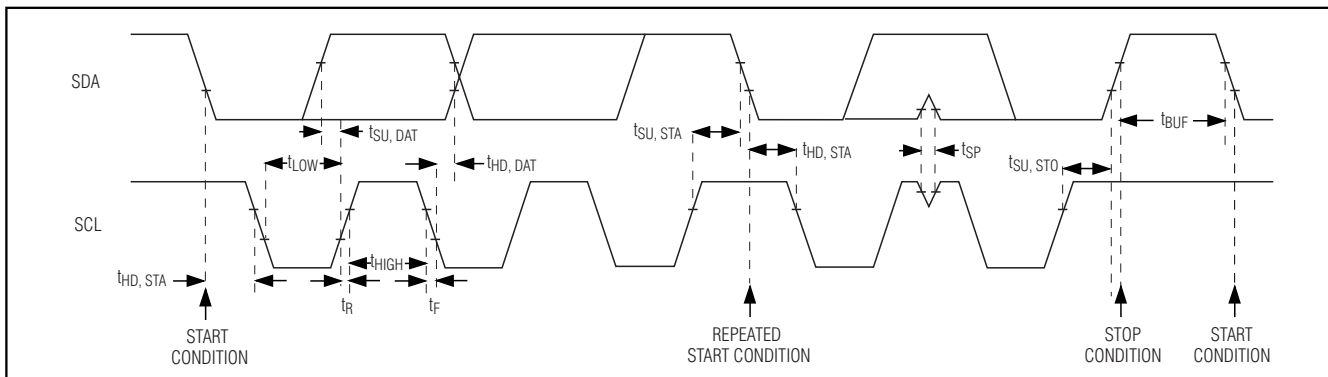

Figure 10. 2-Wire Interface Timing Diagram
facilitate communication between the MAX9851/MAX9853 and the master at clock rates up to 400kHz. Figure 10 shows the 2-wire interface timing diagram. The master generates SCL and initiates data transfer on the bus. A master device writes data to the MAX9851/MAX9853 by transmitting the proper slave address followed by the register address and then the data word. Each transmit sequence is framed by a START (S) or REPEATED START (Sr) condition and a STOP (P) condition. Each word transmitted to the MAX9851/MAX9853 is 8 bits long and is followed by an acknowledge clock pulse. A master reading data from the MAX9851/MAX9853 transmits the proper slave address followed by a series of nine SCL pulses. The MAX9851/MAX9853 transmits data on SDA in sync with the master-generated SCL pulses. The master acknowledges receipt of each byte of data. Each read sequence is framed by a START or REPEATED START condition, a not acknowledge, and a STOP condition. SDA operates as both an input and an open-drain output. A pullup resistor, typically greater than 500Ω, is required on the SDA bus. SCL operates as only an input. A pullup resistor, typically greater than 500Ω, is required on SCL if there are multiple masters on the bus, or if the master in a single-master system has an open-drain SCL output. Series resistors in line with SDA and SCL are optional. Series resistors protect the digital inputs of the MAX9851/MAX9853 from high-voltage spikes on the bus lines, and minimize crosstalk and undershoot of the bus signals.